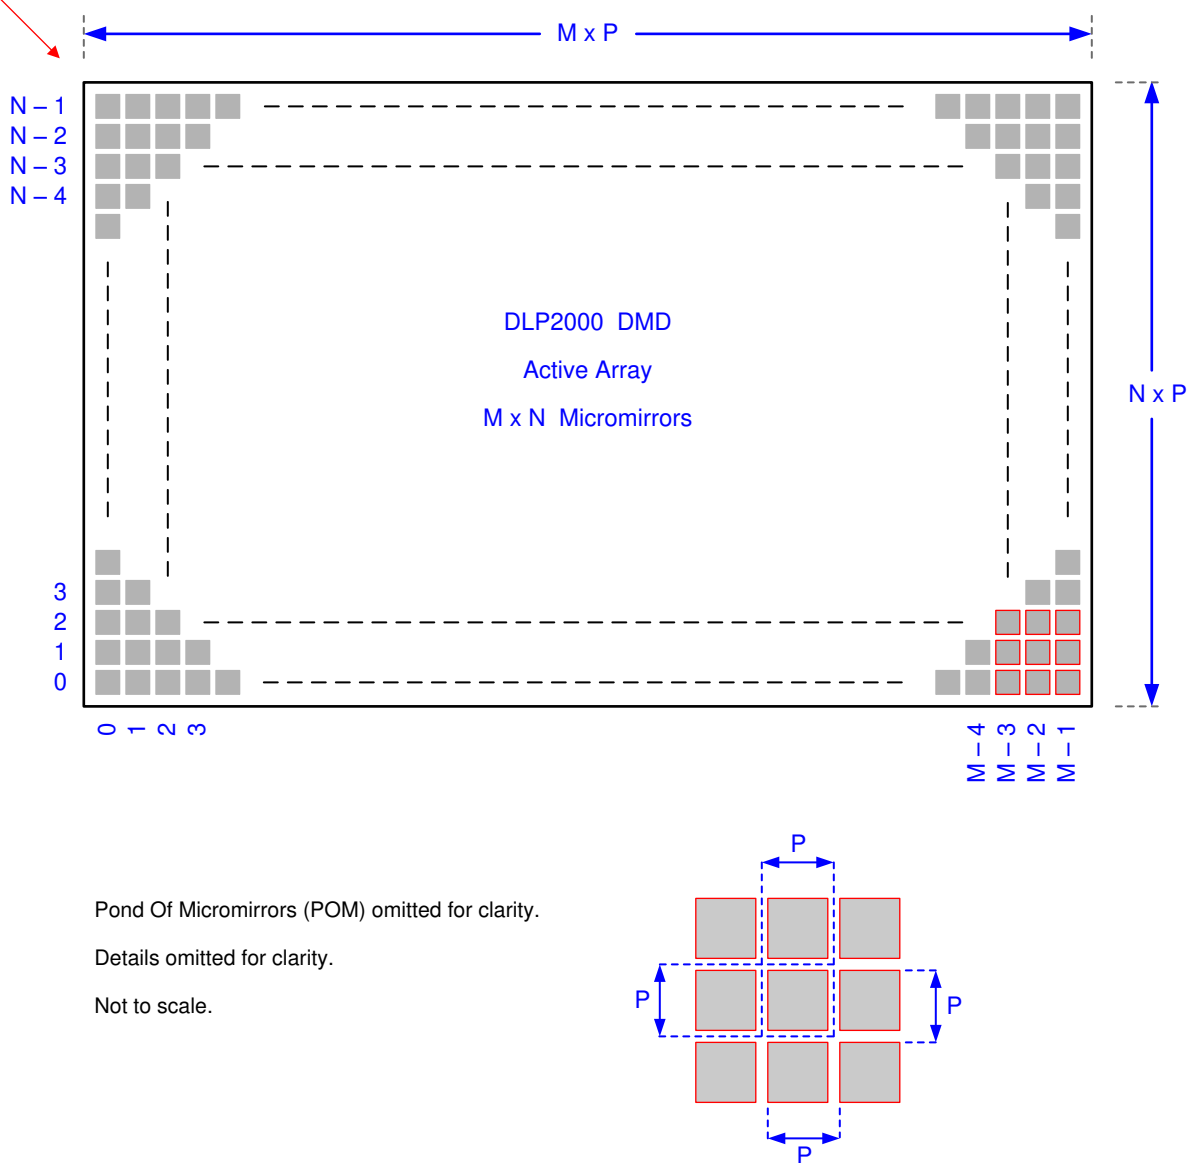

图 6-8. Micromirror Array Physical Characteristics
- (1) See 图 6-8.
- (2) The structure and qualities of the border around the active array include a band of partially functional micromirrors called the “pond of micromirrors” (POM). These micromirrors are structurally and/or electrically prevented from tilting toward the bright or “on” state but still require an electrical bias to tilt toward “off.”
- (3) Out of the eight POM rows on the top and bottom, only the one POM row closest to the active array is electrically attached to that reset group. The other seven POM rows are attached to a dedicated POM internal reset driver circuit.